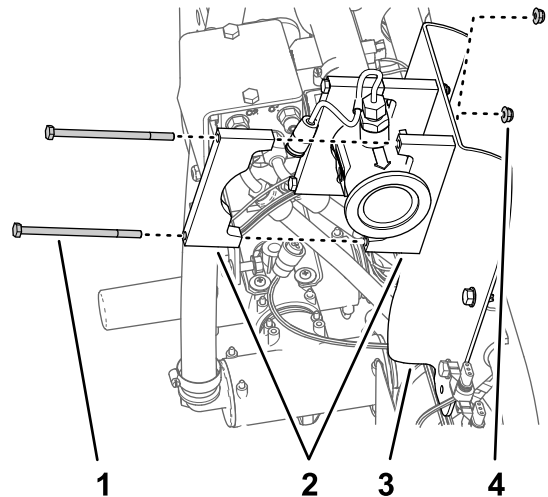

Figure 76
- Align a 2 support-clamp halves between the flow meter and the flow-meter bracket, and align the holes in the clamp halves with the holes in the bracket (Figure 76).
4. Align a support clamp half at the rear side of the flow meter with 1 of the clamp halves that you assembled in step 3 (Figure 76).
5. Assemble the pair of clamp halves to the flow meter bracket (Figure 76) with 2 bolts (1/4 x 4-1/2 inches) and 2 flange locknuts (1/4 inch).